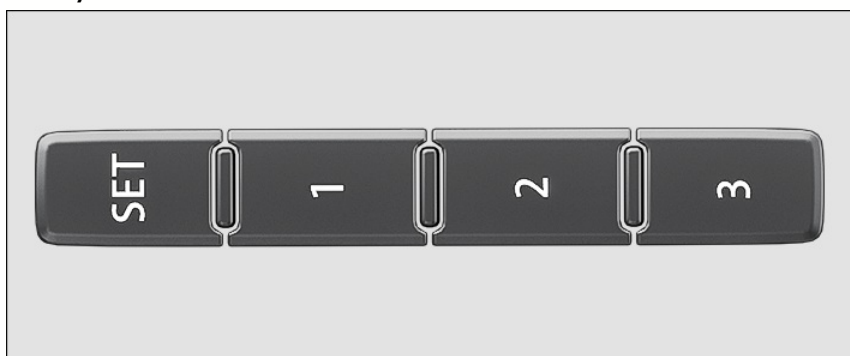

Fig. 89 On the outer side of the driver's seat: memory buttons.
5. Press the **SET** *fig. 89* button for longer than ten seconds.
4. Press the desired memory button *fig. 89*.